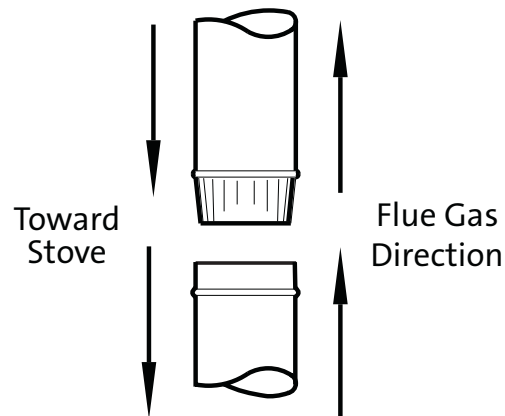

Figure 3. Chimney connector orientation.
- Each connector section must be oriented with the male (crimped) end pointing toward the stove. See fig. 3.